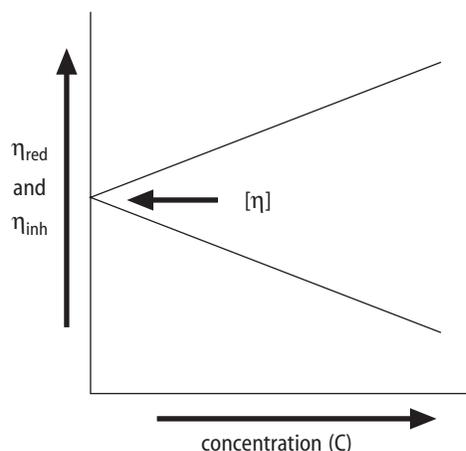

Figure 1 Plot of  $\eta_{red}$  and  $\eta_{inh}$  vs. concentration, C.
1. The average efflux time ( $t_i$ ) is used to determine a reduced viscosity ( $\eta_{red}$ ) and an inherent viscosity ( $\eta_{inh}$ ) for each concentration (C). Both  $\eta_{red}$  and  $\eta_{inh}$  are plotted vs. C and the y intercept(s) determined. (See Figure 1.) This value (or the average value if the intercepts are not the same) is the intrinsic viscosity,  $[\eta]$ . The viscosity average molecular weight,  $M_v$ , can be calculated from the intrinsic viscosity by the Mark-Houwink-Sakurada equation: